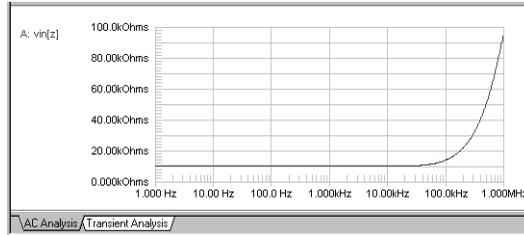

Figure 6.34. This Impedance Plot shows impedance seen by a two-terminal source over frequency.
- 5 View the data as it appears in Figure 6.34.
This causes an impedance plot to appear in the selected analysis window as in Figure 6.34.
The waveform in Figure 6.34 was generated by simulating the Analog.ckt circuit, and making an adjustment to the AC Analysis window as shown in Figure 6.33. See *Using the Analysis Window* earlier in this chapter for more information about manipulating the waveforms.